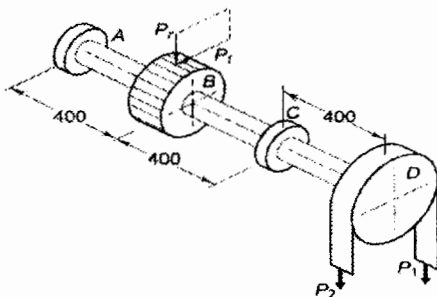

Figure 5
- a. A transmission shaft supporting a spur gears B and a pulley D is shown in figure 5. The shaft is mounted on two bearings A and C. The diameter of pulley and the pitch circle diameter of gear are 450 and 300 mm respectively. The pulley transmits 20 kW power at 500 rpm to the gear. P_1 and P_2 are belt tensions in tight and loose sides, while P_t and P_r are tangential and radial components of gear tooth force. Assume, $P_1=3P_2$ and $P_r = P_t \tan 20^\circ$